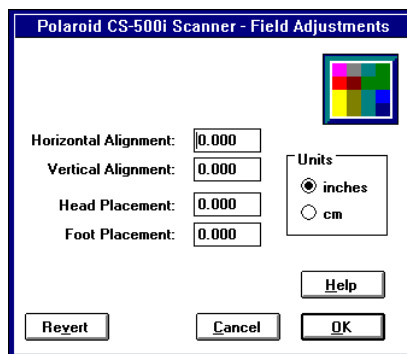

Figure 4-34. Field Adjustments Dialog Box
4. Choose the Field button to display the Field Adjustments dialog box (Figure 4-34).